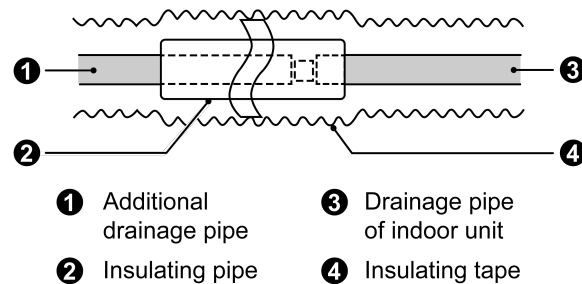

Fig.4.3.1
- (1) It is not allowed to connect the condensate drain pipe into waste pipe or other pipelines which are likely to produce corrosive or peculiar smell to prevent the smell from entering indoors or corrupt the unit.
- (2) It is not allowed to connect the condensate drain pipe into rain pipe to prevent rain water from pouring in and cause property loss or personal injury.
- (3) Condensate drain pipe should be connected into special drain system for air conditioner.
- (4) The drainage pipe should be short and the gradient downwards should be at least 1%~2% in order to drain condensation water smoothly.
- (5) The diameter of drainage hose should be bigger or equal to the diameter of drainage pipe joint.
- (6) Install drainage pipe according to the following Fig.4.3.1 and arrange insulation to the drainage pipe. Improper installation may lead to water leakage and damp the furniture and other things in the room.
- (7) You can buy normal hard PVC pipe used as the drainage pipe. During connection, insert the end of PVC pipe into the drainage hole and then tighten it with drainage hole and wire binder. Never connect the drainage hole and drainage hose with glue.
- (8) When the drainage pipelines are used for several units, the position of pipeline should be about 100mm lower than the drainage port of each unit. In this case, thicker pipes should be applied.